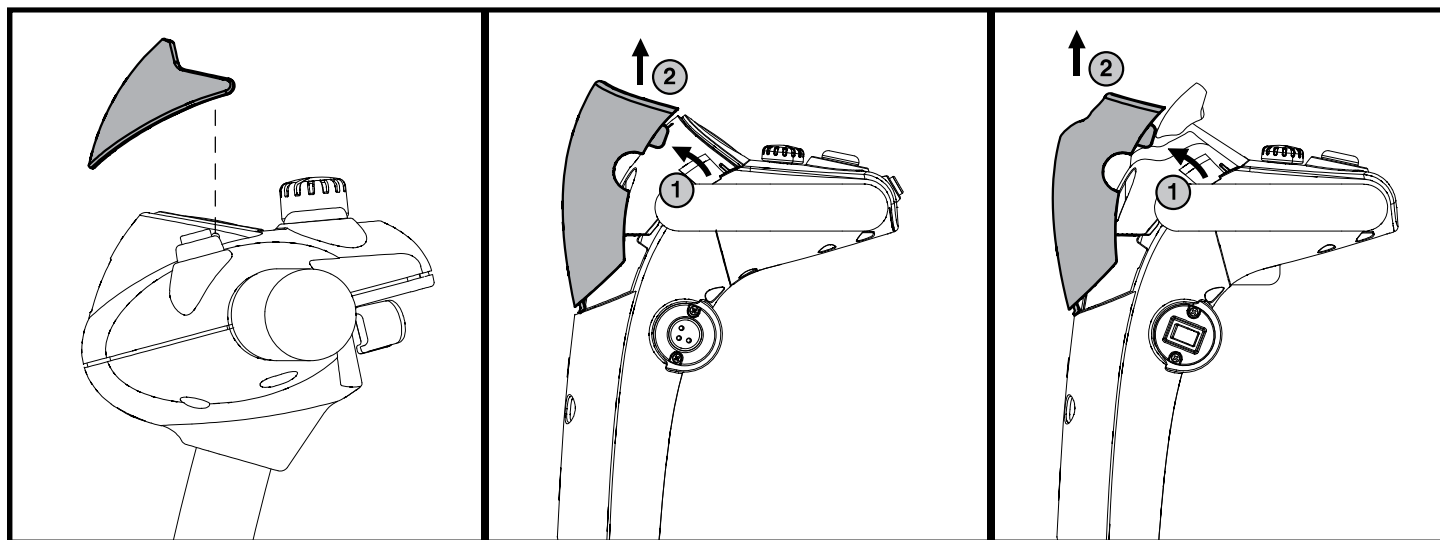

Figure 17. Tiller Console Visor
1. Gently pull the top of the visor away from the tiller console, then slowly lift it up and away from the tiller console. See **figure 17**.